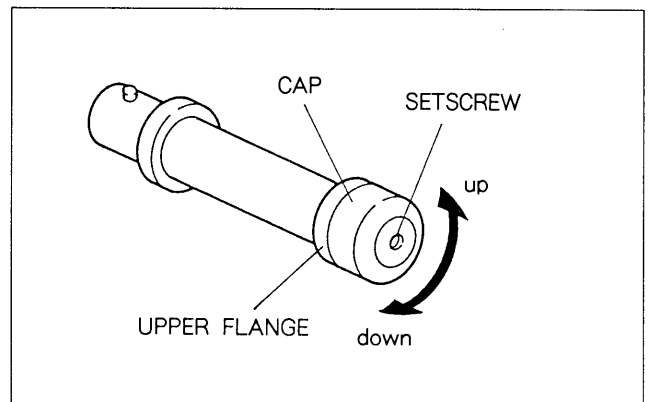

Fig. 9-3-8. Taper Guide and Guide Post 3 Height Adjustment
6. Taper Guide and Guide Post 3 Height Adjustment (See Fig. 9-3-8.)